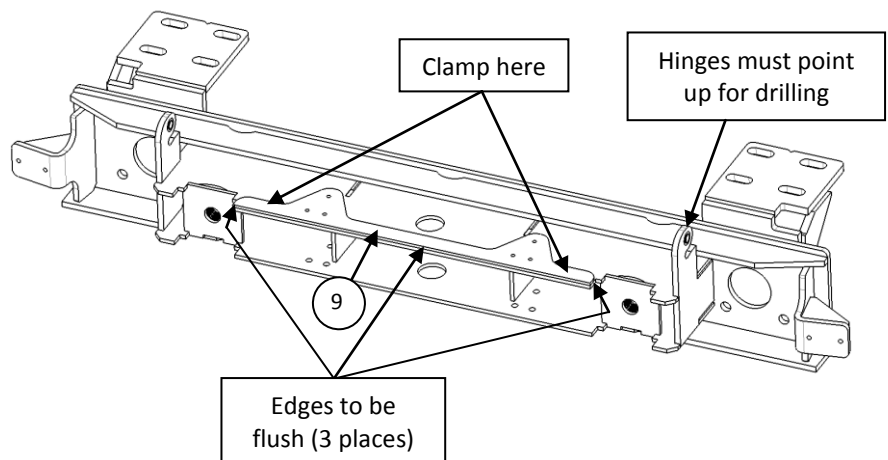

Figure 2 – Drill template.
2. Place bracket upside down on work bench and clamp drill template (Item 9). Ensure the three edges are flush as per figure 2.